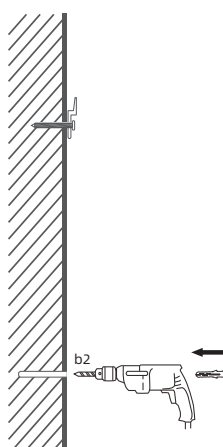

Fig. 4
- ② Remove the mirror cabinet, drill the fixing hole in the wall in the marked position, and place the expansion plugs (Fig. 4).